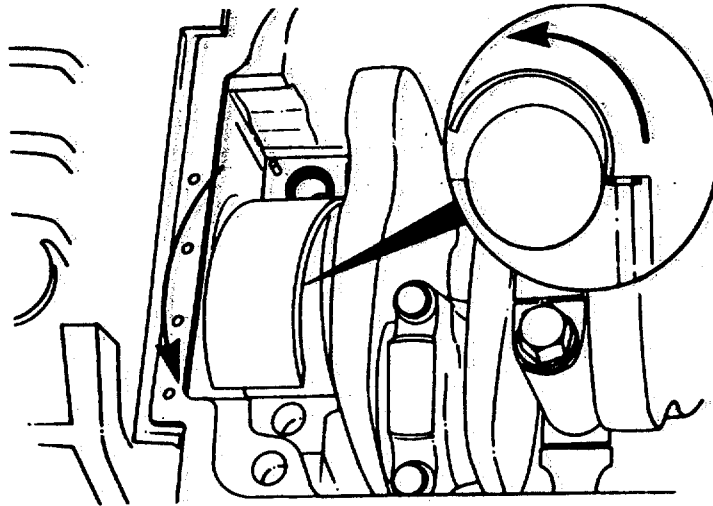

FIGURE 4-51. *Installing the Bearing Shell.*
- (5) Install the dowel ring counterbore of the cylinder block.
- (6) Install the lower main bearing shell as follows:
- (c) Push the side of the bearing shell opposite the dowel ring to install the bearing shell (FIGURE 4-51).